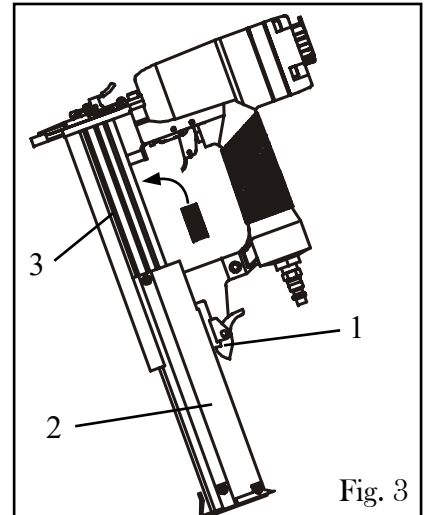

Fig. 3
## LOADING THE FASTENERS (Fig. 3)
1. Depress the Lock (Fig. 3 - 1) to release the movable magazine (Figure 3 - 2) and pull the magazine out fully.
2. Place a full clip of the specified type and size fasteners on the fixed magazine (Fig. 3 - 3), 100 fasteners may be loaded in the magazine.
3. Push the movable magazine assembly (Fig. 3 - 2) forward until it is locked.